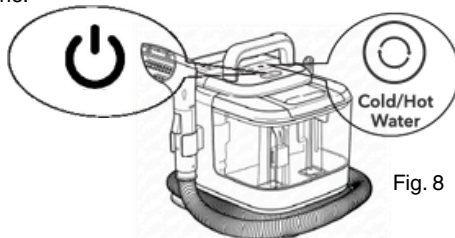

Fig. 8
1. Press the "ON/OFF button" to power up the machine (Fig.8). The machine stay in stand by mode with all indicating lights blinking. Press the "ON/OFF button" the second time to switch off the machine.
2. To select the cleaning mode (Fig.8):